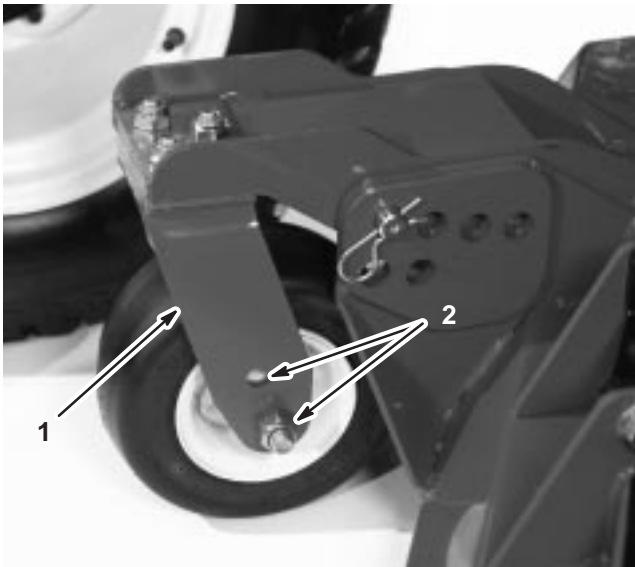
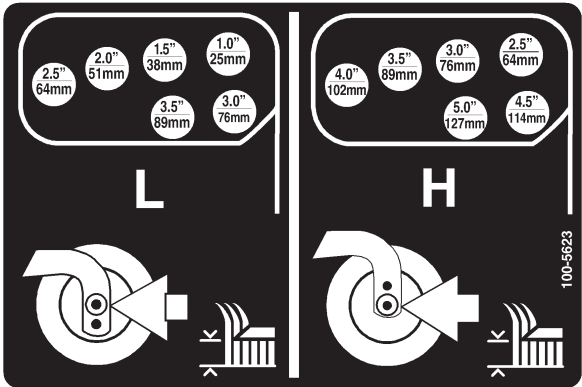

Figure 16
Figure 17
4. Remove the hairpin cotter and clevis pins from the castor pivot arms (Fig. 16). Align the pivot arm holes with the selected height-of-cut bracket holes in the cutting unit frames (Fig. 17), insert the clevis pins, and install the hairpin cotters.